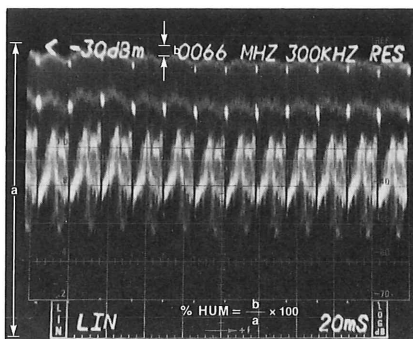

Figure 9-2. Measurement of hum and low frequency disturbance.
5. Select LIN (Linear) mode and use the REF VAR control to position the sync tips of the carrier to the reference level. Set the TIME/DIV control to 20 ms/DIV and select line trigger (figure 9-2).